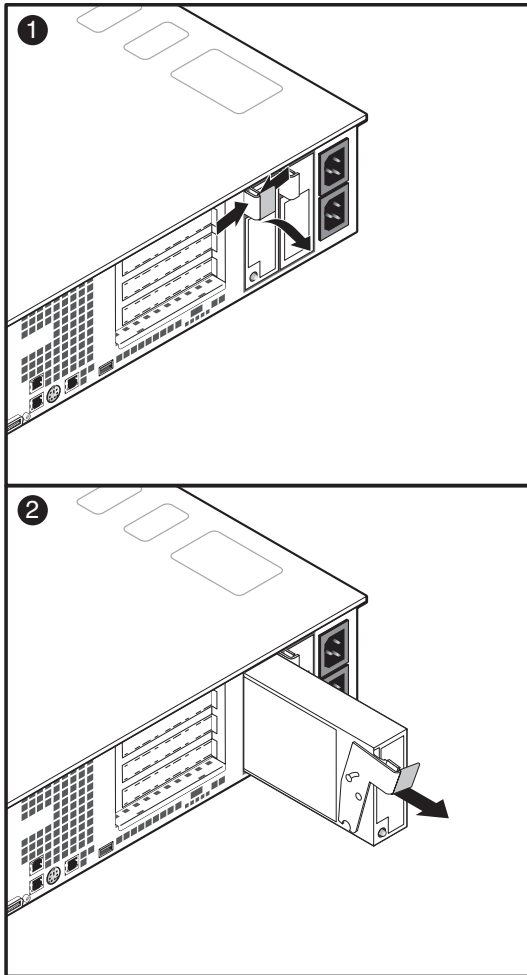

FIGURE 5-27 Replacing the Power Supply
1. Squeeze the module handle to depress the latch (Figure 5-27, panel 1).
2. Rotate the handle down while pulling the module toward you (Figure 5-27, panel 2).